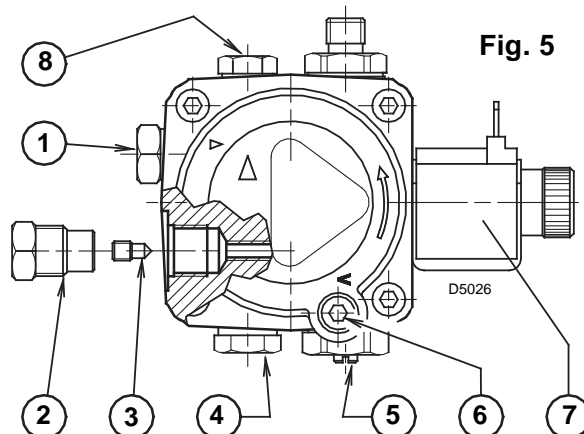
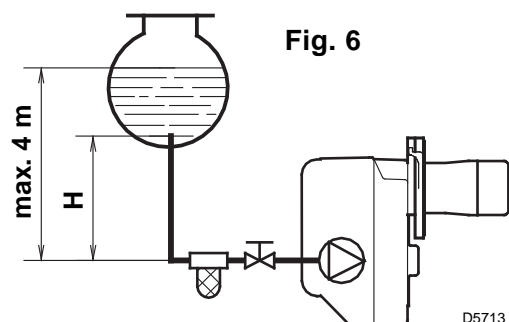

Fig. 5
Fig. 6
- The pump is designed to allow working with two pipes. In order to obtain one pipe working it is necessary to unscrew the return plug (2), remove the by-pass screw (3) and then screw again the plug (2). (See fig. 5).
On the system in fig. 6 it is sufficient to loosen the suction gauge connection (5, fig. 5) and wait until oil flows out.
To change it act on pump pressure adjust screw (4, fig. 5, page 4).